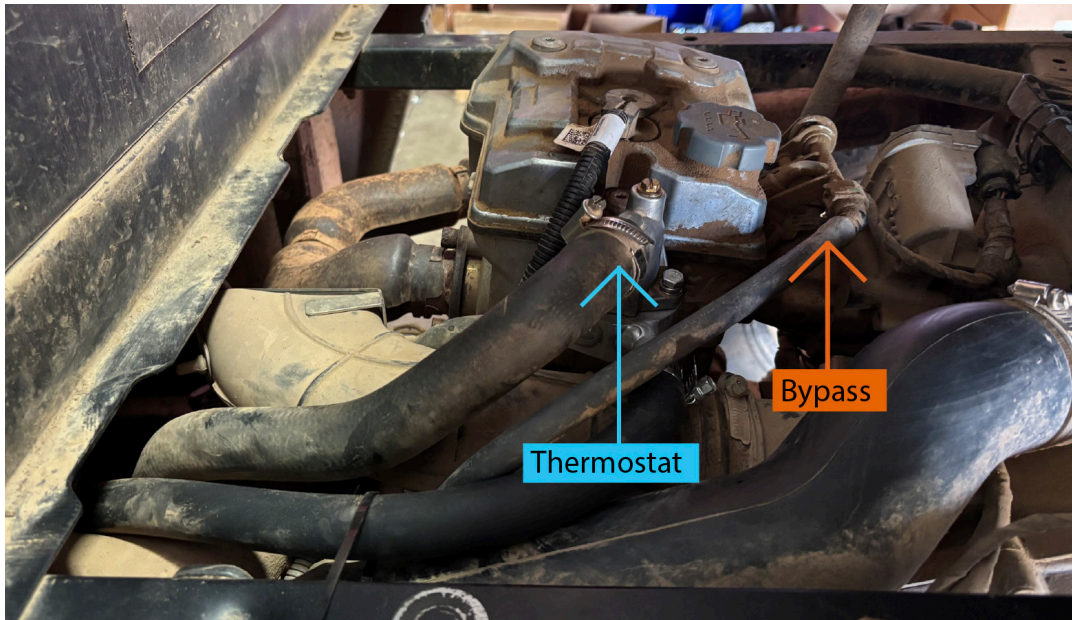

FIGURE 10
34. Place the thermostat on top of the bypass and reconnect to the engine block. FIGURE 10